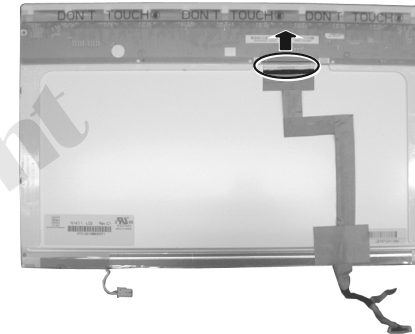

Figure 2-27 Free the LCD panel
6. Disconnect the cable to free the LCD panel. (Figure 2-27)